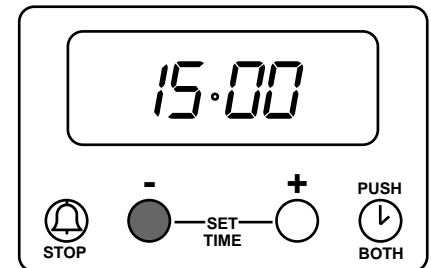

Fig. 6.9
To stop the sound press button (1). The display will stop flashing and show the time of day, e.g. 15.00. The cookpot symbol ( $\text{⏰}$ ) will go out. See Fig. 6.9. If using the oven it will come on again once button (1) has been depressed. When cooking is complete remove food and turn OFF oven temperature control.